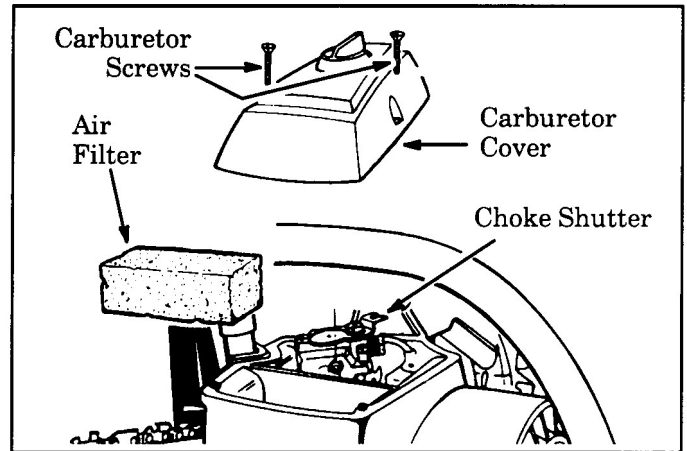

Figure 43
2. Remove the carburetor cover screws and carburetor cover. Figure 43.